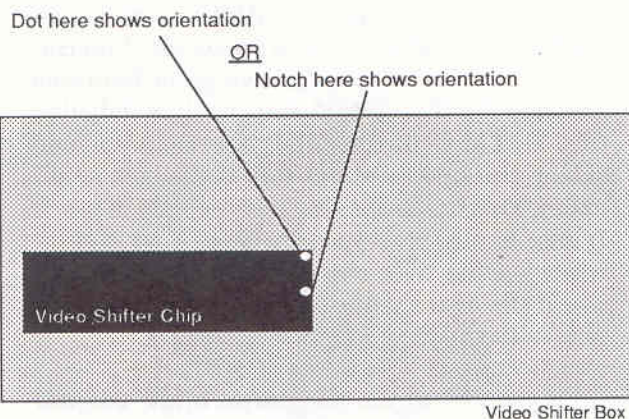

Figure 8 - Video Shifter orientation
(1) The XTRA-RAM RAM Board plugs into two places on your ST's circuit board - the Video Shifter chip and the MMU (Memory Management Unit) chip. The Video Shifter is the large 40 pin rectangular chip with CO25914 or CO70713 written on it. The MMU is one of the two (or three if your ST has a blitter chip fitted) large square chips and has CO25912 or C100109 written onto it. These chips will have some other numbers on them after a dash (For example CO25912-38). If your MMU is a CIO25912-20, then you might need to upgrade or modify your ST slightly - refer to the section starting on page 30, 'Dealing With Older STs.'
(2) Refer to the box on page 14 'How To Avoid Static.' Having taken static precautions, remove the Video Shifter chip (from the open Video Shifter box) by very gently prising one end of it upwards with the flat bladed screwdriver. When this end has risen slightly, work on the other end - swapping ends often, until the entire chip has risen out of the socket and is sitting on top of it. Make a mental note of which end the small notch or dot on the chip (shown in Figure 8) is located.